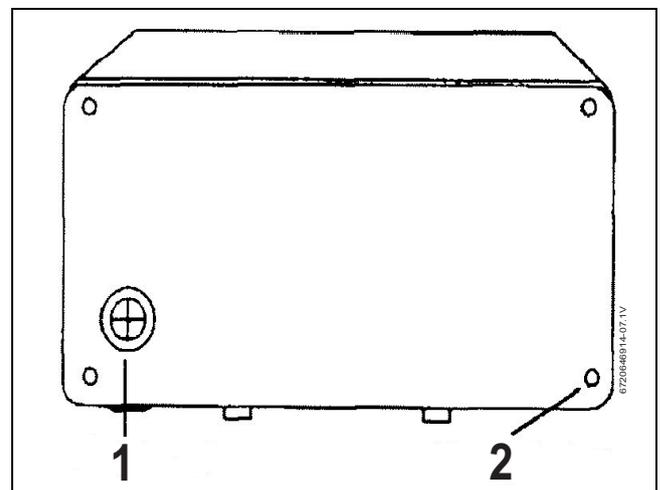

Fig. 6 Back of unit
- ▶ If it is going through the back of the cover unit, cut through the grommet on the backplate with a sharp knife. Make sure that you do not remove the grommet from the backplate (Fig. 6):